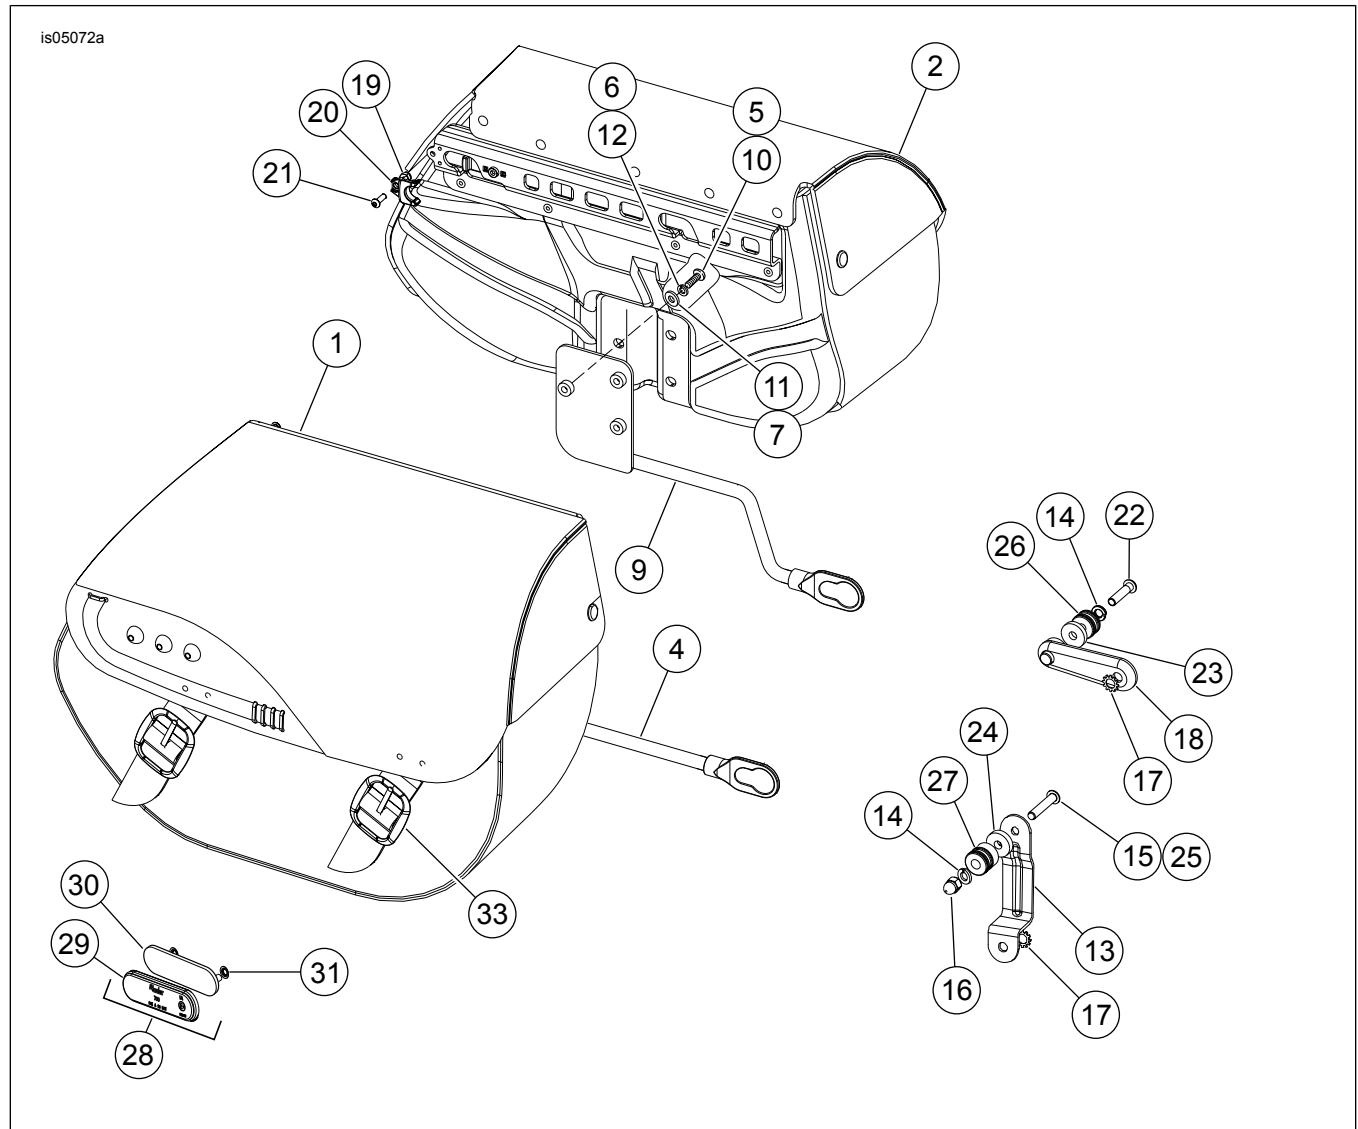

Figure 8. Service Parts: Detachable Saddlebags
See Figure 8 and Table 1.
1. See Figure 8 and Table 1. Position reflector mount (30) in center of saddlebag between straps.
3. Using soapy water or isopropyl alcohol, clean the surface of the reflector mount (30) where reflector (29) will be installed.
7. Install reflector mount (30) on saddlebag using two pushnuts (31). The pushnuts are installed from inside the saddlebag.